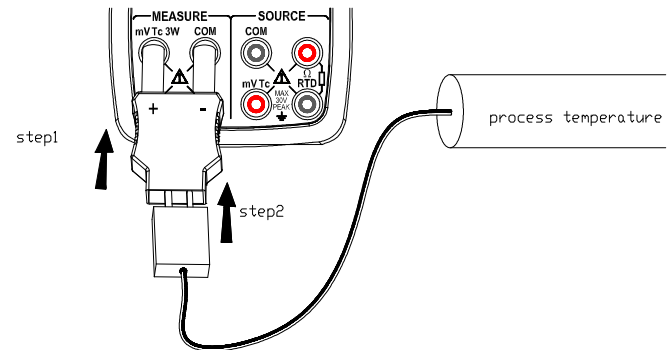

Figure 8 Measuring TC
### For thermocouple signal (Figure 8)
**Step 3:** Connect the thermocouple convertor to the jack under test as shown in Figure 8.The selected function and the measured value and unit shall be shown in the main districts part of the LCD.